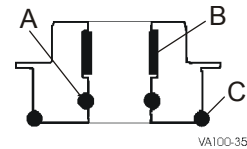

Figure 18 - Standard Top Adapter
2. Remove and replace the o-ring (Figure 18, item A) inside the adapter. For the flush/steam barrier adapters, see Figure 4 on page 9 and Figure 6 on page 10, respectively.
3. Check the split bearing (Figure 18, item B) inside the adapter by feeling the amount protruding from the adapter wall. If the bearing is flush with the wall, replace the bearing.
2. Slide or cut the outer o-ring (Figure 18, item C) off the adapter. Do not nick or scratch the o-ring groove.